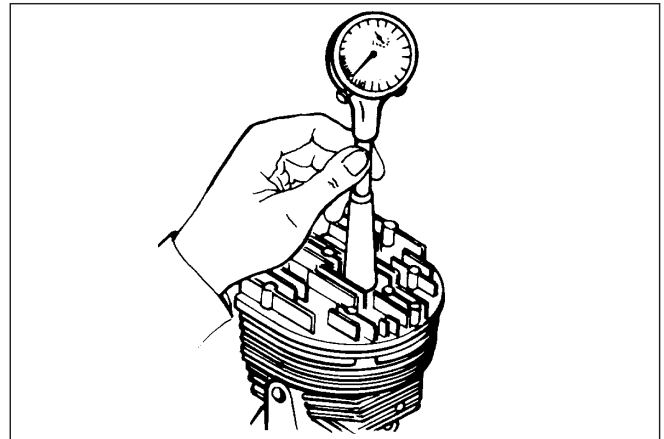

Fig. 20
- Remove sparking plug, insert a narrow rule on to piston top, place a straight edge across top of cylinder. (A special tool is available for this operation), (Fig 20).